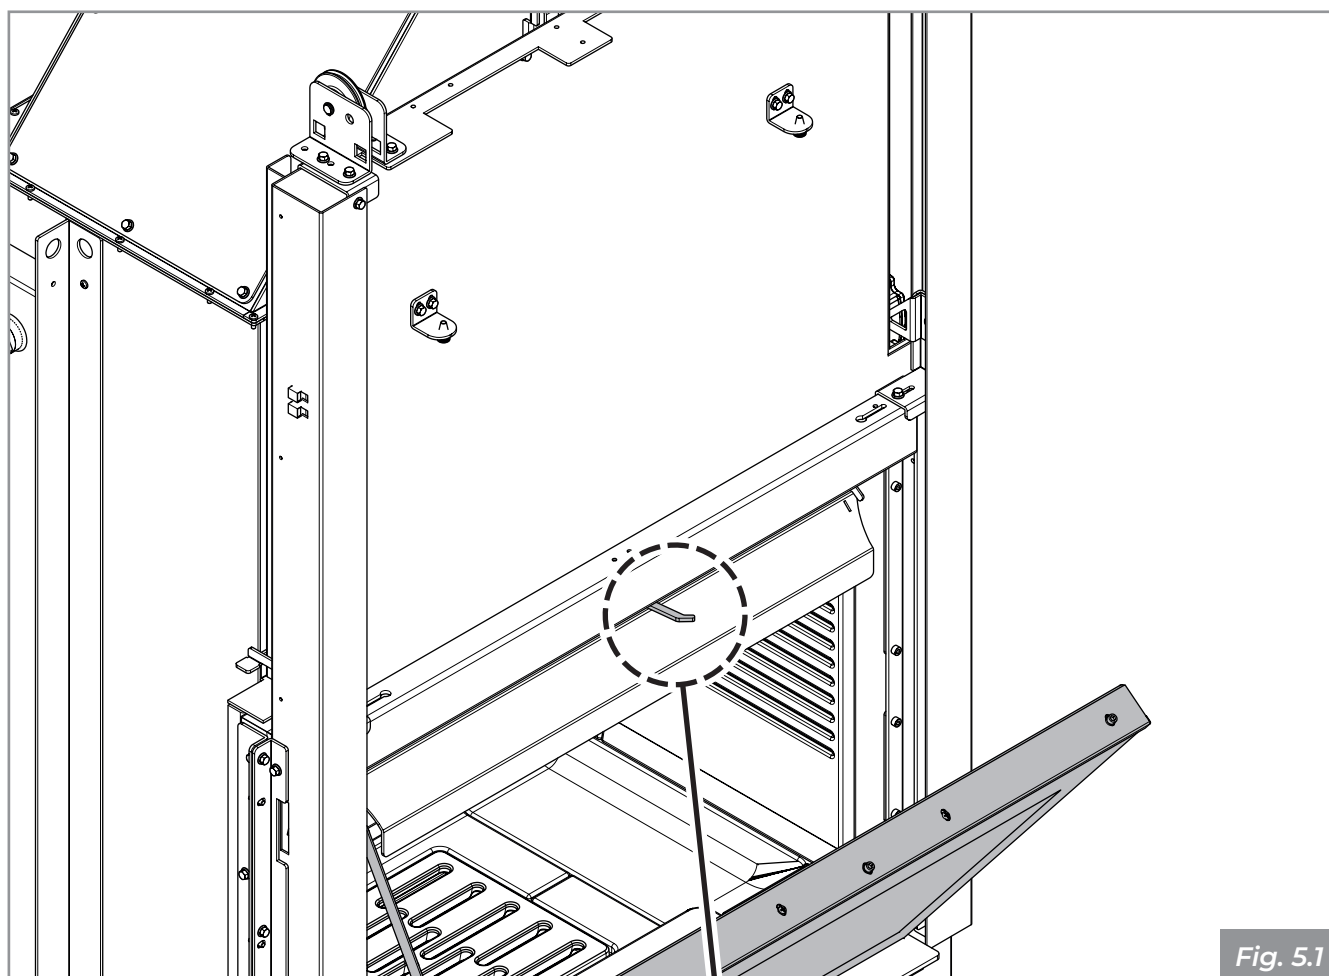

Fig. 5.1
1. Open the dual-aperture door by pulling the handle(s) outwards to release the locking pin on the upper side of the glass; once the lock has been released, open the door and guide it downwards with your hand to avoid impacts (**Fig. 5.1**).
Clean the glass with a damp cloth or damp paper passed in the ashes. To clean the glass, open the dual-aperture door by pulling the handle(s) outwards to release the locking pin on the upper side of the glass; once the lock has been released, open the door and guide it downwards with your hand to avoid impacts (**Fig. 5.1**).